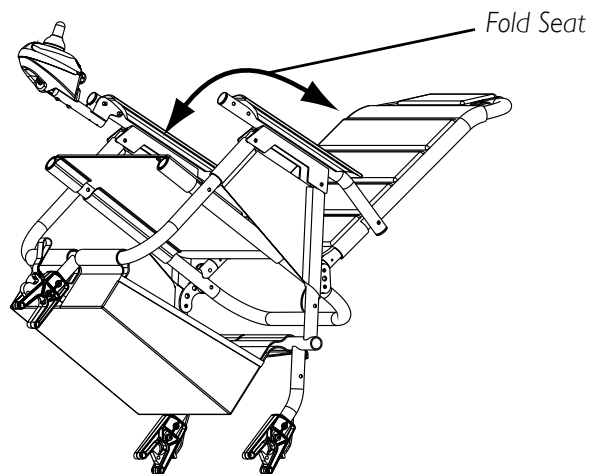

FIGURE 6.1 - REMOVING/INSTALLING THE SEAT
NOTE: For this procedure, refer to FIGURE 6.1.
3. Pull up the front seat release loop and tilt the seat back. Refer to Detail “A” of FIGURE 6.1.
4. Pull up the rear seat release cord with the other hand and lift the seat assembly off and away from the wheelchair base. Refer to Detail “B” of FIGURE 6.1.
5. Fold the seat assembly. Refer to Detail “C” of FIGURE 6.1.